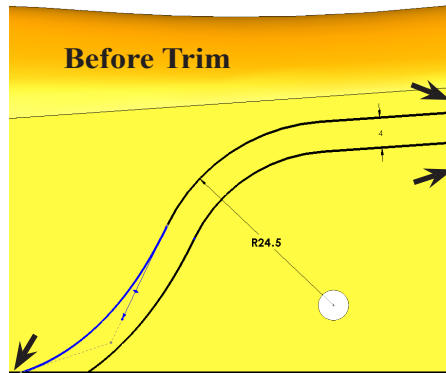
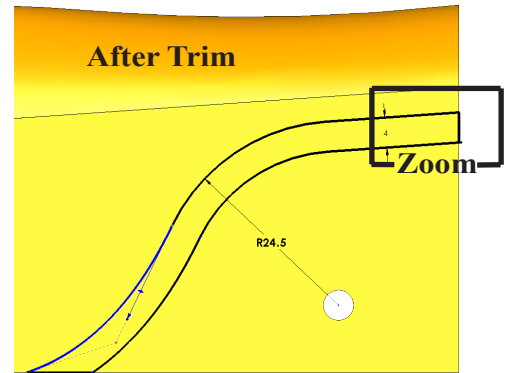

Fig. 106
Fig. 107
Step 32. Trim the converted lines to cap fender as shown in, **Fig. 106**. Click segments to trim. Results shown in **Fig. 107**.
Step 33. Zoom in around rear edge of fender, **Fig. 107**. To zoom, hold down **Shift key** and drag with middle mouse button (wheel). To pan, hold down **Ctrl key** and drag with middle mouse button (wheel).